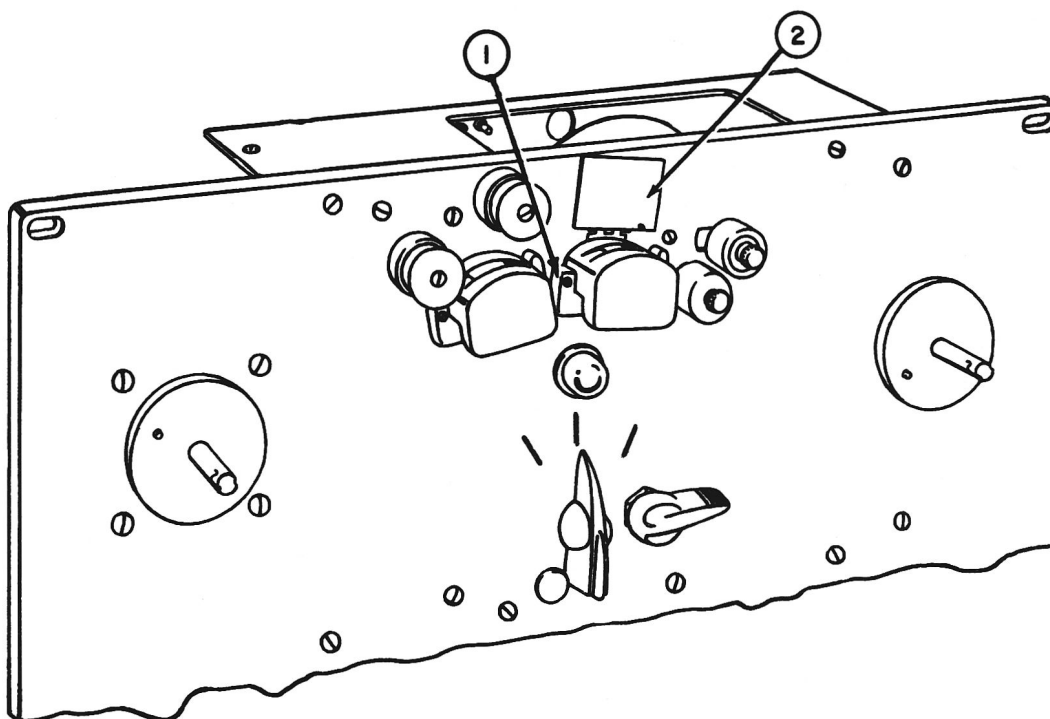

Figure 4 — Front View of Mechanism
2. Again start the tape running over the head and while observing the output reading, adjust the **LEFT HAND** head mounting screw (Fig. 4-Ref. No. 1) for maximum reading. When this maximum has been reached, the head is properly aligned.
The **RECORD/PLAYBACK** head is equipped with a shield (Fig. 4-Ref. 2). Adjustment of this cover to reduce hum is as follows: